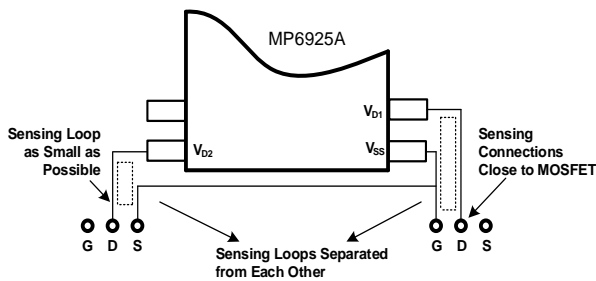

Figure 13: Sensing for V_D/V_S
3. Make the sensing loop as small as possible (see Figure 13).